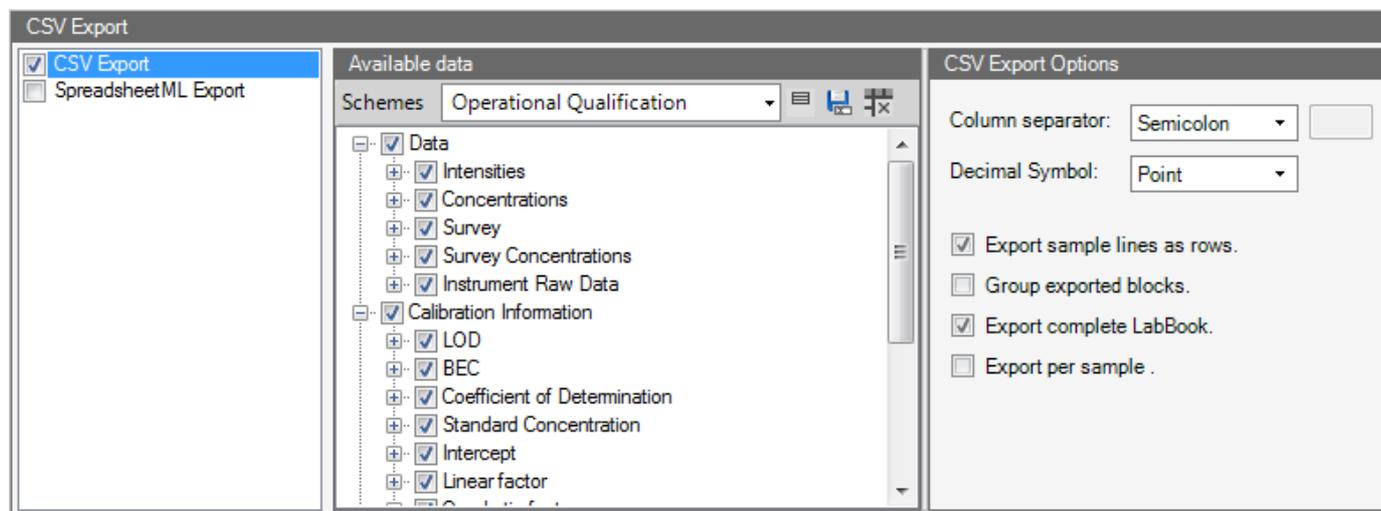

Figure 5-11. Automatic Export, CSV Export settings
2. Select the **CSV Export** check box to define these export settings, see Figure 5-11.